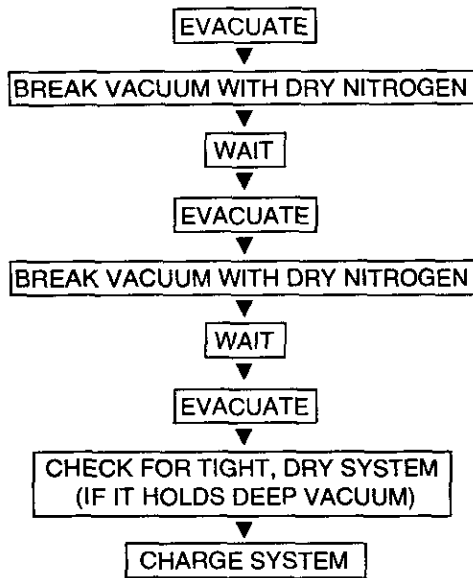

Fig. 8—Triple Evacuation Method
The triple evacuation method should only be used when vacuum pump is only capable of pumping down to 28 in. of mercury vacuum and system does not contain any liquid water. Refer to Fig. 8 and proceed as follows:
5. Repeat this procedure as indicated in Fig. 8. System will then be free of any contaminants and water vapor.